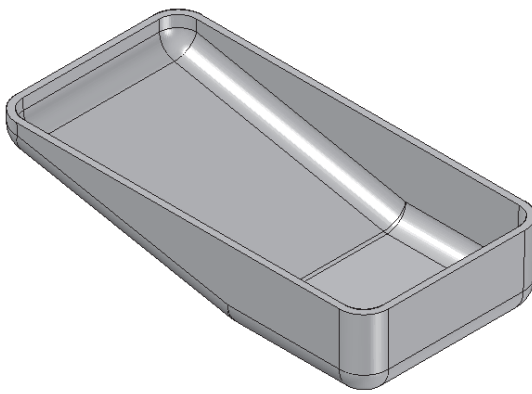

Figure 7-59 Model after creating the thin wall feature
- d. Add a thin wall feature to the model, refer to Figure 7-59.
4. Choose the **Preview** button and then choose **Finish** to create a thin wall feature. The model, after creating the thin wall feature, is shown in Figure 7-59.